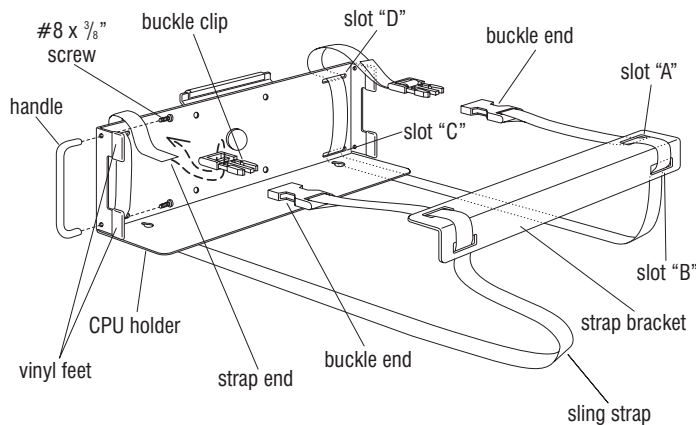

Figure 1
- Lay the CPU holder and strap bracket out as illustrated in Figure 1. First route the "end" of the sling strap through slot "A" and slot "B" in the strap bracket, and pull buckle end to within a few inches of slot "A". Next route the strap end through slots "C" and "D" in the CPU holder as shown. Finally, following the arrow, route the strap end through the buckle clip. Follow the above procedure for the other sling strap (Figure 1).
- Secure the handle to the CPU holder with two #8 x 3/8" screws at the two holes located above the vinyl feet (Figure 1).